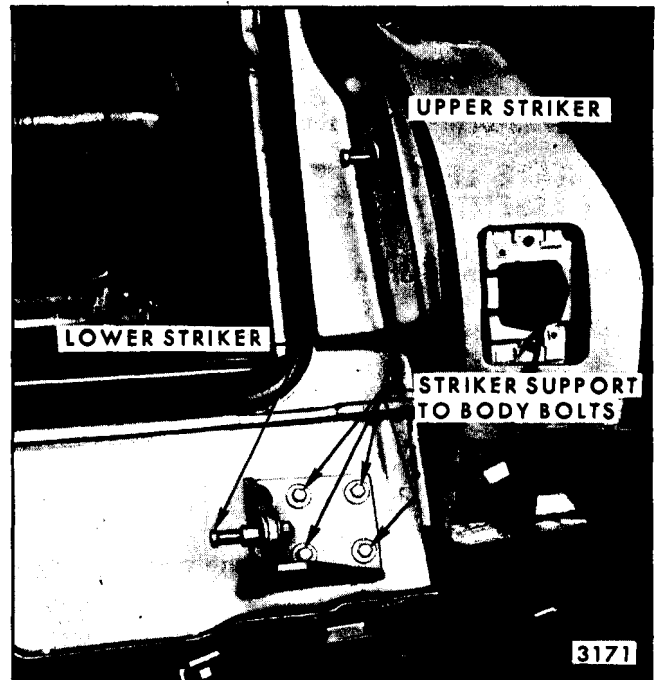

Fig. 9-53-Dual Acting Tail Gate Right Upper and Lower Striker Assemblies
1. Mark position of striker on back body pillar (Figure 9-53).
2. Scribe (mark) position of striker support on body and remove support (Figure 9-53).